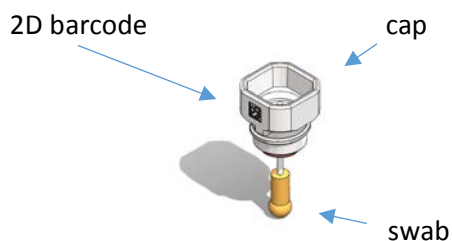

Figure 2: cap/swab assembly
5. If desired, scan and note the 2D barcode number on the side of the cap/swab assembly as shown in Fig. 2.